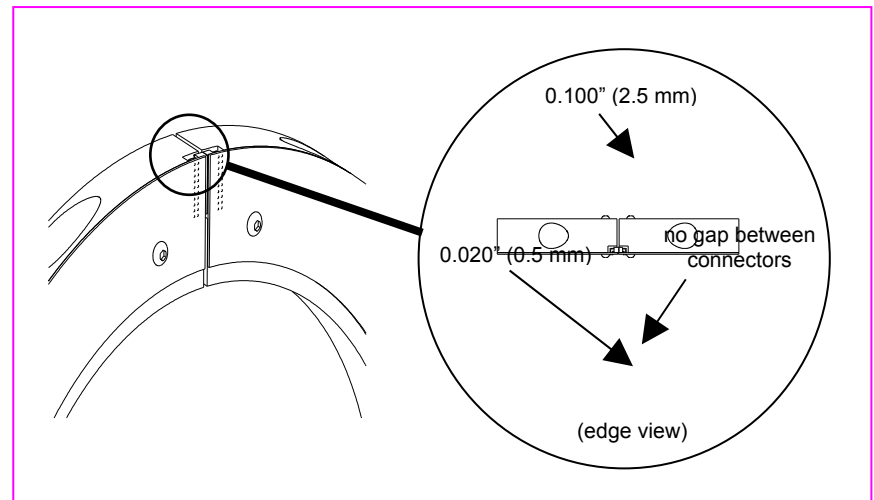
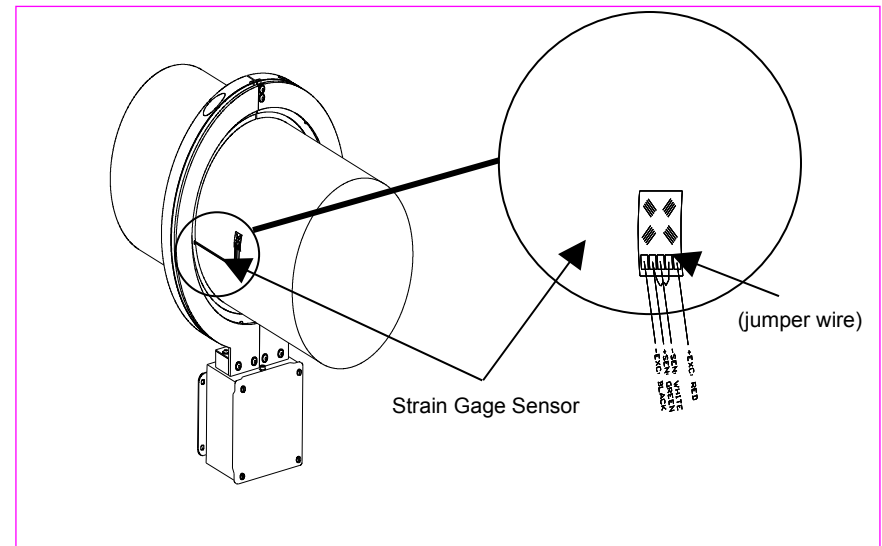

Figure 9 - Correct Collar Gap Spacing
Figure 10 - Strain Gage Connections
2. Remove large bolts from Rotating Collar if necessary to separate parts. Apply antiseize compound (provided) to the bolt threads. Reassemble collar on shaft adjacent to gage with ribbon cable from collar leading towards gage. (Refer to Figure 1 on page 3 or Figure 10 on page 19.) Make certain that connectors are properly aligned. Install opposing collar bolts from opposite directions to maintain balance. Tighten alternate bolts evenly until gap between collar halves is .100" (2.5mm) at all junctions. (See Figure 9 below.)
4. Securely mount Master Control Unit to machine or mounting bracket (not provided) so that the back surface of the Collar aligns with the back edge of the Mounting Block. (Refer to Figure 1 on page 3 or Figure 10 on page 19.) Additional support for the Power Coil may be required depending on the size and application; mounting tabs are incorporated into the larger Power Coil designs and brackets are included.
10. Trim ribbon cable from Rotating Collar to length and discard the star bridge. Connect (solder) cable to sensor. (Refer to Figure 10 below.) Note: Keep ribbon cable as short as practical (6 to 8 inches typical) to avoid unwanted electrical noise. For long cable runs consider using shielded cable. Secure ribbon cable to shaft using adhesive or fiberglass tape or more permanent methods as appropriate.